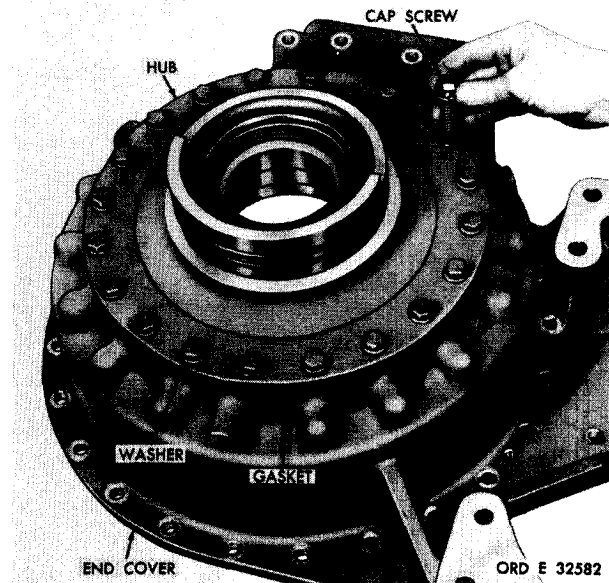

Figure 163. Installing end cover hub
h. Install hub assembly and gasket onto end cover. Secure the hub with nineteen 7/16-14 x 1-1/2 cap screws and lock washers (fig. 163). Tighten the cap screws to 42-50 pound-foot torque.